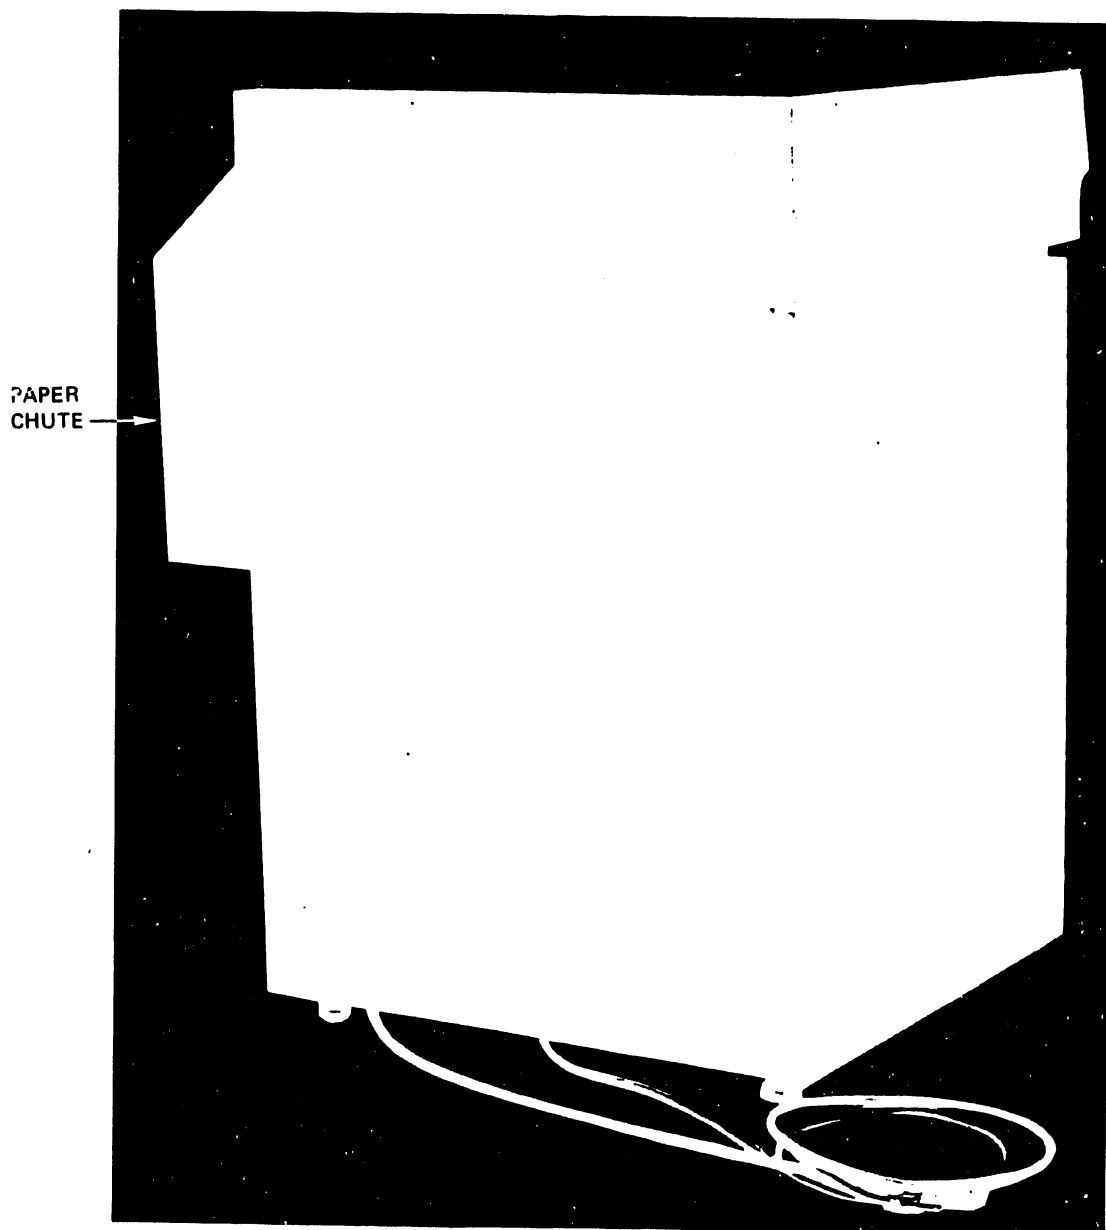

Figure 2-3. Model 77 Rear View
1. Check that the paper guide/static eliminator on the rear door of the printer is properly installed. See Figures 2-3 and 2-4.